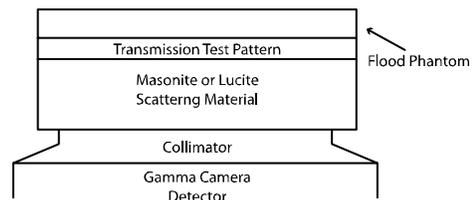

Figure 2-3. System Resolution with Scattering Material
6. Place 10 cm of the suitable attenuating and scattering material, such as Masonite or Lucite, between the bar test pattern and collimator (Figure 2-3),